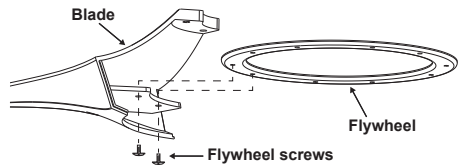

Figure 14
Step 3. Attach the flywheel to one of the five blades using two flywheel screws. (Fig. 14)